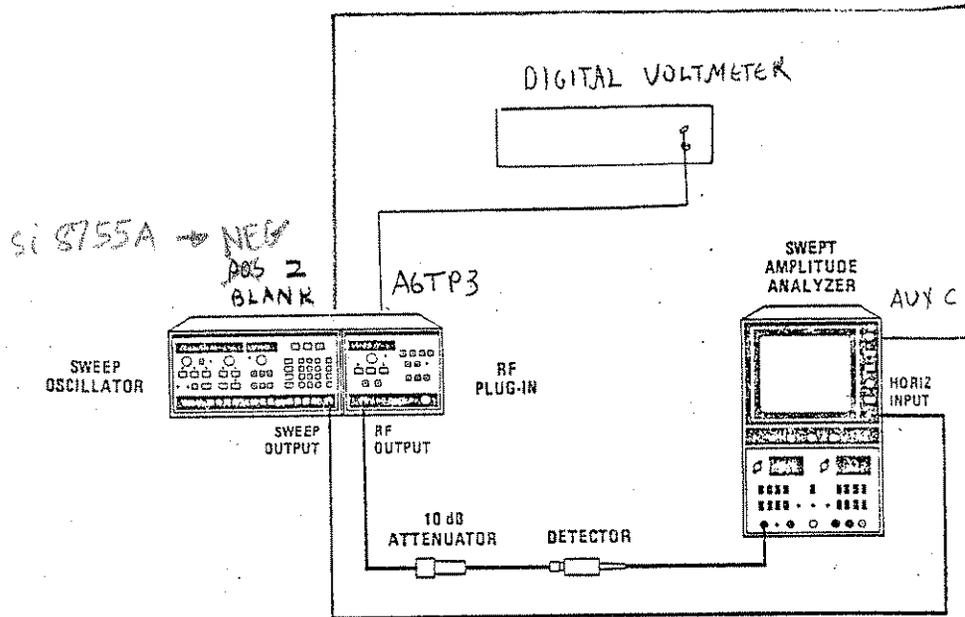

Figure 5-18. Slow Speed YTM to YD Tracking Test Setup
1. Connect the equipment as shown in Figure 5-18 with the DVM connected to A6TP3 (with reference to ground). Allow the equipment to warm up for 1 hour.